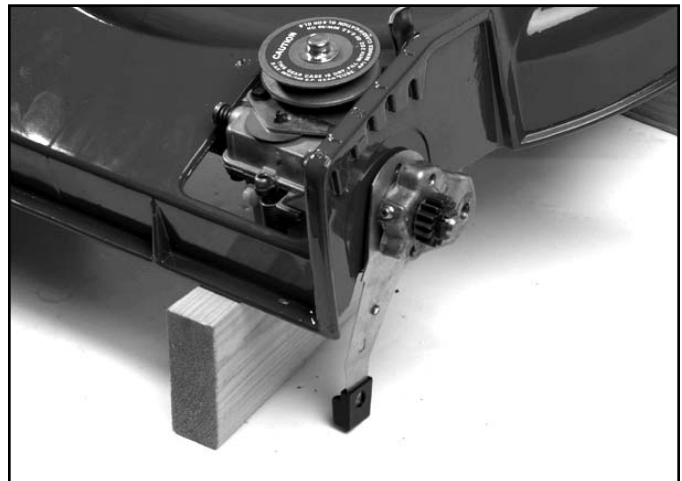

Fig 006
5. Pivot (both) front spring arms forward until they point straight down. (This removes the tension from the pivot arms so the roll pin can be removed) (Fig. 006).